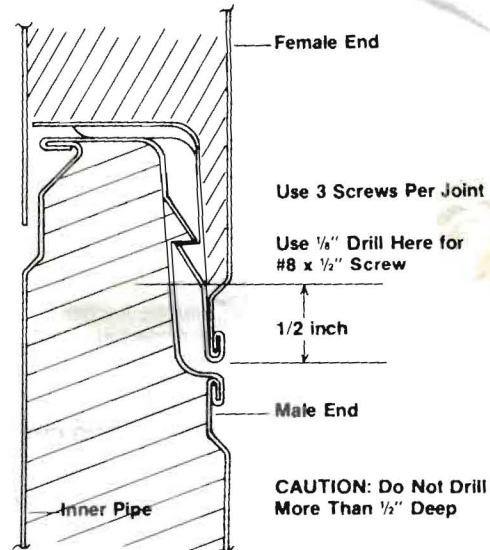

FIG. 3 DRILLING DIAGRAM
7. Place Storm Collar (SC) down over chimney until it touches flashing and fasten. Work in a waterproof mastic between pipe and Collar.
8. Twist lock additional pipe lengths to bottom of pipe assembly, not to exceed 20 feet. Entire chimney should be secured at every joint with a Locking Band (LB) or screws (Fig. 3).